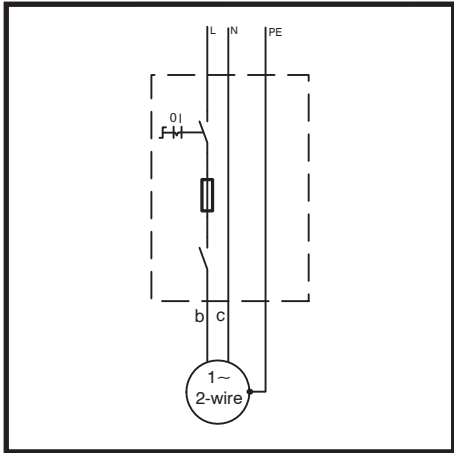

Fig.: 16
2. Super Stainless 2-wire connection (fig. 16)